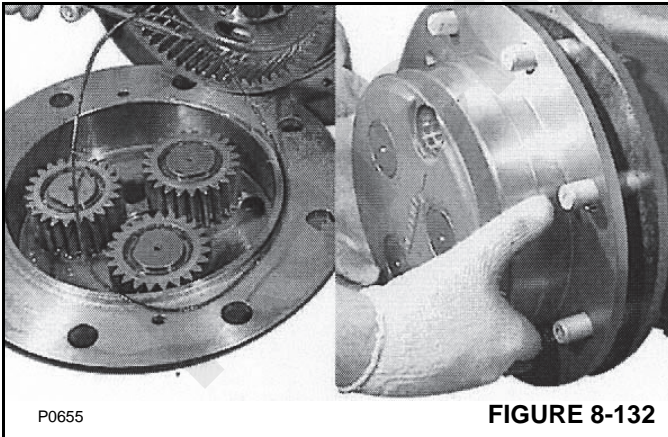

FIGURE 8-132
- Install a new O-ring on the planetary carrier (Figure 8-132).